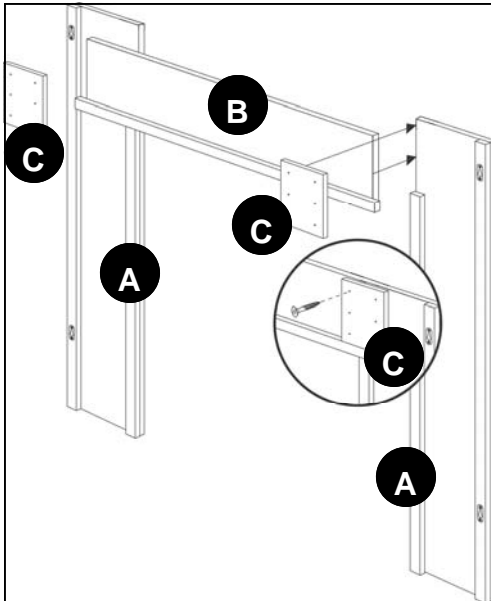

Fig. 3
Fix assembling blocks (C) to join pillars (A) and facade (B) in the back using wood screws (AA), as shown in figure 3: